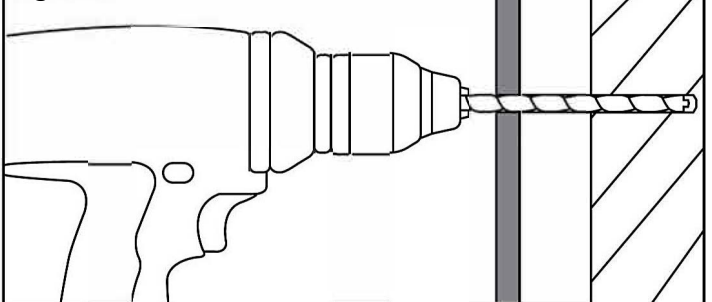

Figure 4.
4. Secure wall bracket using appropriate fasteners. Ensure the screw goes in as straight as possible as show in Figure 4.